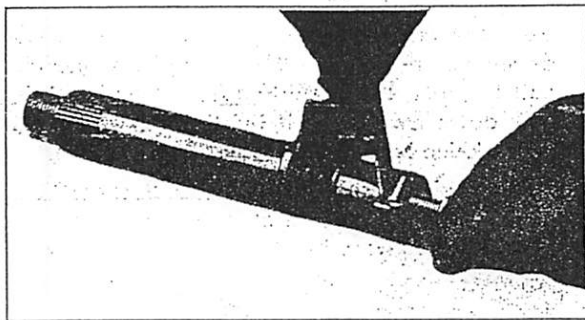

Fig. 24—Checking Sector Shaft Lash Adjuster End Clearance
4. Assemble the lash adjuster with shim in the slot in end of sector shaft. Check the end clearance which should not be greater than .002", Fig. 24. For the purpose of adjusting this